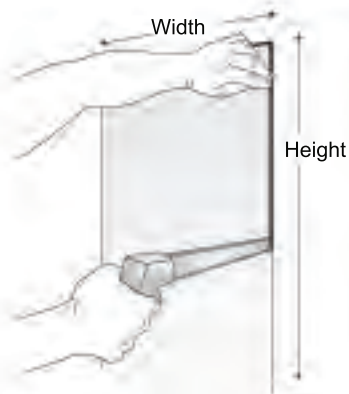

Fig. 1
**For the SKU#59491 Trash Receptacle (16" on center studs)**, cut hole that is 15.75" wide by 54" long at recommended height of 3" from floor (See Fig. 1).
**For the SKU#59471 Trash Receptacle (12" on center studs)**, cut hole that is 11" wide by 57.5" long at recommended height of 4" from floor (See Fig. 1).